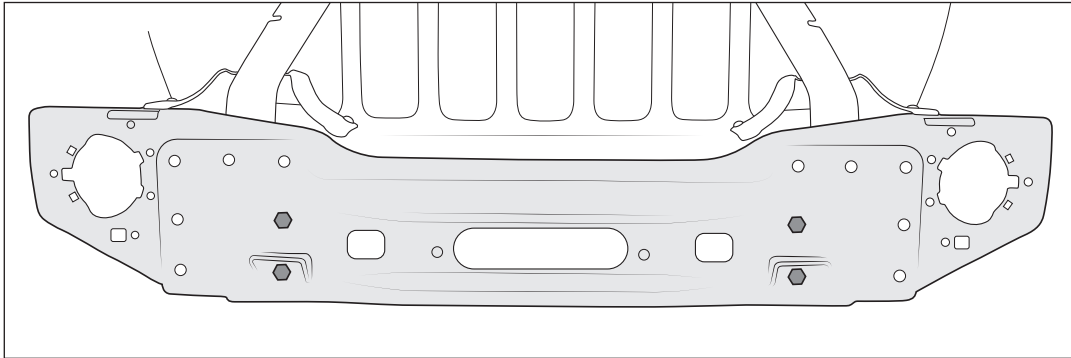

Figure 15
5. Use the same M12x35mm bolts and washers from the bumper mounting kit (section II. step 1) to temporarily install the main fairlead stamping using the bottom four (4) mounting holes on each side. Make sure it's centered and level relative to the frame flanges and snug the bolts by hand. This is only temporary and they do not need to be fully torqued (fig. 15).